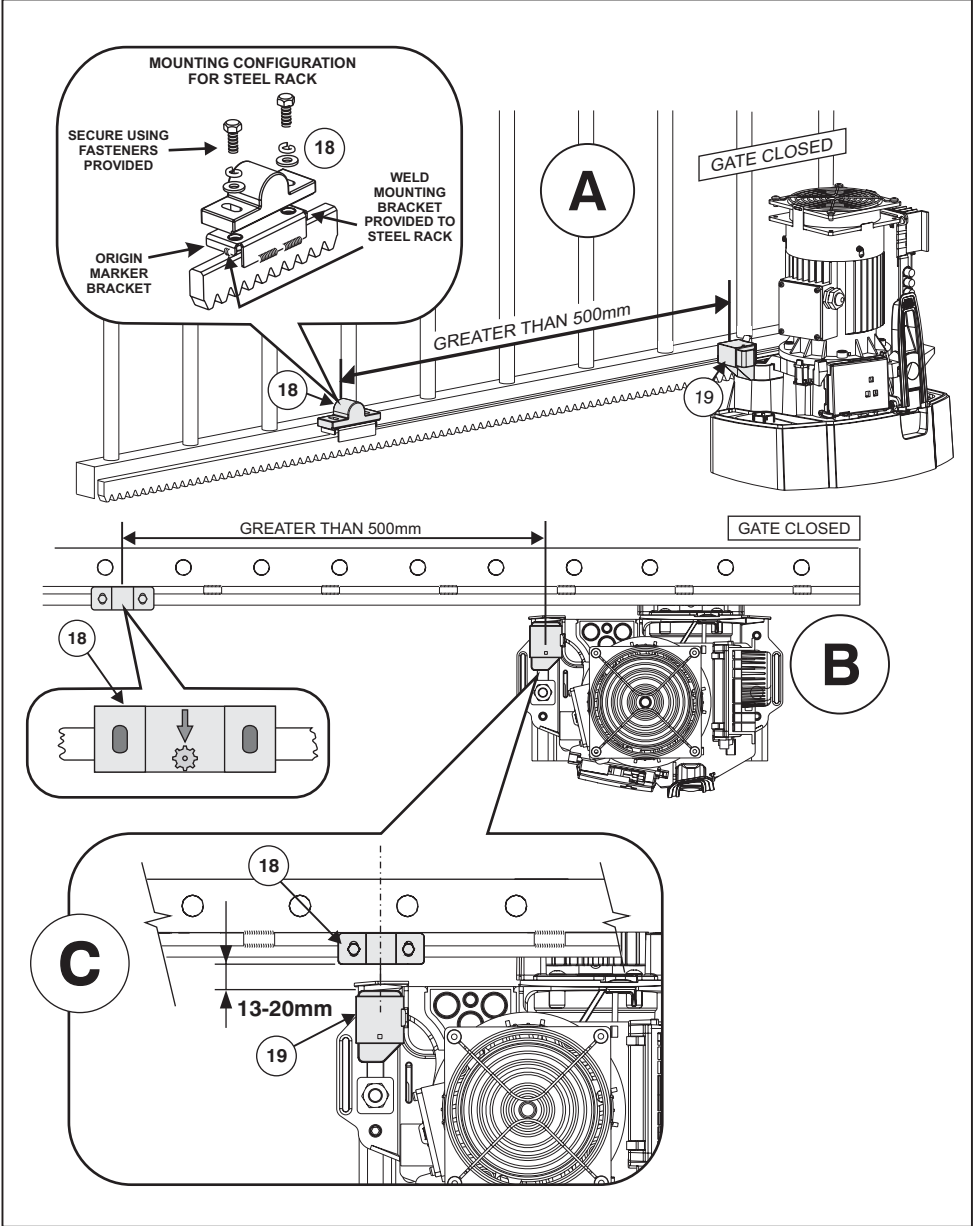

Figure 21 Origin Marker Mounting
- With the gate in the CLOSED position, mount the origin marker (18) a minimum of 500mm from the origin sensor (19). (See Fig. 21 isometric view A or plan view B)
- Manually slide gate OPEN until origin marker (18) is in line with the origin sensor (19). Ensure distance between face of marker (18) and front face of sensor (19) is between 13 and 20mm. (See Fig. 21, view C)
- Adjust distance by sliding the origin marker (18) along the slotted mounting holes until the specified distance is achieved.